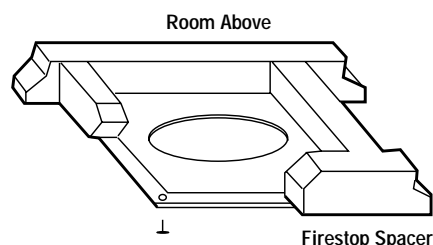

Figure 21
**Step 3.** Position the appropriate firestop spacer at the ceiling and nail temporarily with two (2) 8d nails. Use a flat firestop spacer, Model F10FS-2, for the FTF10 system if chimney penetrates vertically. If the chimney penetrates through the ceiling at a 30° angle (offset chimney) then use a 30° firestop spacer, Model F10FS30-2. Use one nail on opposite sides of the firestop to hold in position. Nail permanently, using at least two (2) more 8d nails, after the chimney sections have been assembled through the firestop spacer and after necessary adjustments have been made. The firestop spacer must be secured in place by at least four (4) 8d nails when completely installed.
**Note:** If there is a room above the ceiling level, the firestop spacer must be installed on the bottom side of the ceiling. If an attic is above the ceiling level, the firestop spacer must be installed on the top side of the ceiling joists (Figures 21 and 22).